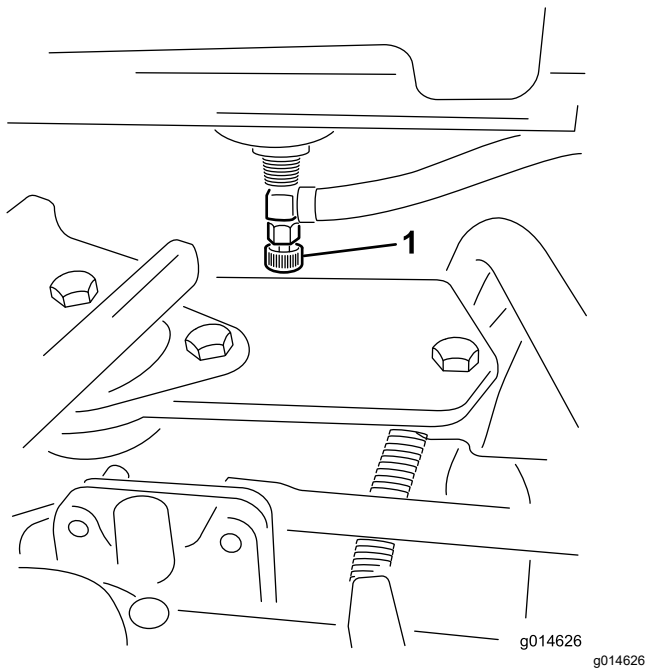

Figure 32
1. Close the fuel-shutoff valve (Figure 32) below the fuel tank.